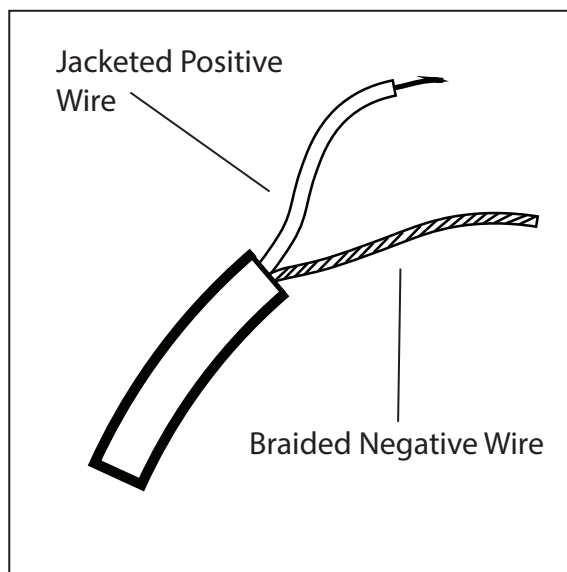

Fig. 4
5. Twist together the outer braided conductor to form the negative wire of the fixture, then strip 5/8" off the end of the inner jacketed conductor to form the positive wire of the fixture (Fig. 4).